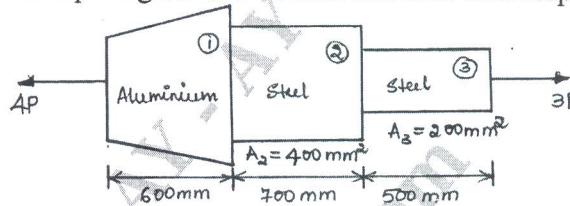

Fig. Q1 (b)
- b. A round bar with stepped portions is subjected to forces as shown in the Fig. Q1 (b). Determine the magnitude of force P such that the net deformation is not to exceed 1 mm. Young's modulus is 2×10^5 MPa for steel and 70×10^3 MPa for aluminium. Big end and small end diameters of the tapering bar are 40 mm and 12.5 mm respectively. (10 Marks)